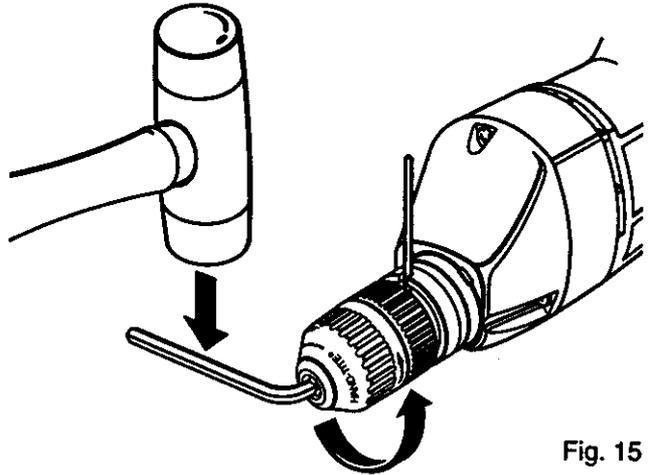

Fig. 15
- Insert hex key wrench into chuck and tighten chuck jaws securely. Tap sharply with a mallet in a counterclockwise direction. This will loosen chuck on the spindle. It can now be unscrewed by hand. See Figure 15.